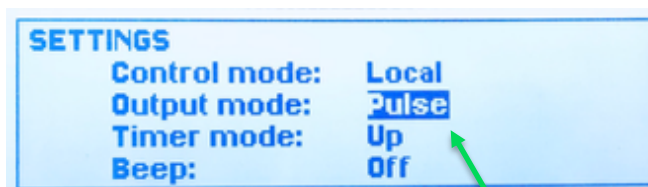

Fig.4.3.3
2. **Output Mode:** DC or PULSE – Fig.4.3.3